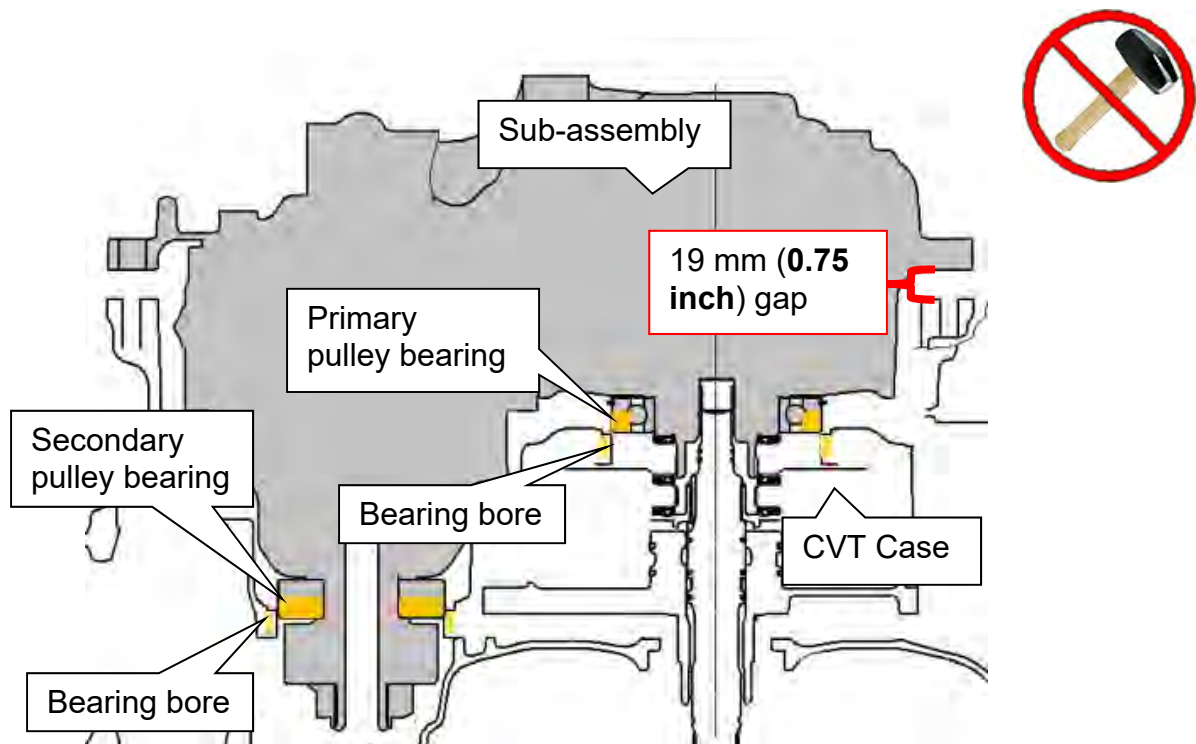

Figure 102
- If the primary and the secondary pulley bearings do not align properly with their bores (Figure 102) or are at an angle, a **gap of 19 mm (0.75 inches)** may be present.